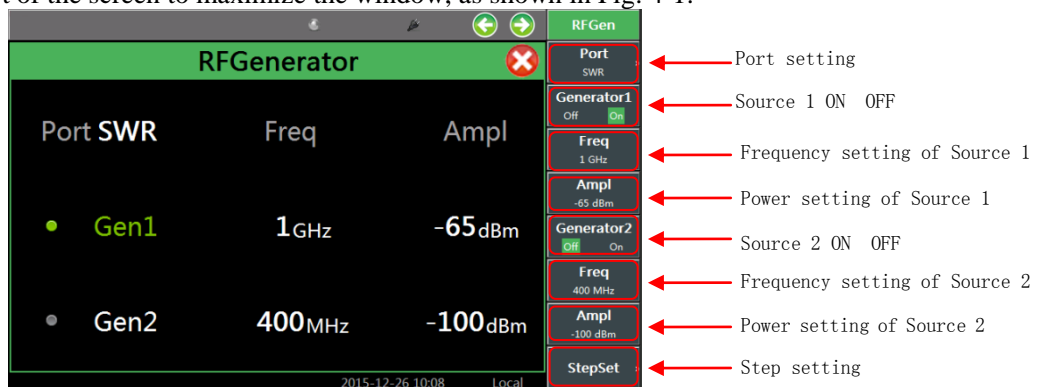

Fig. 4-1 RF Source Display Window
- Open the window: open and select the RF source window by pressing [Receiver] or pressing [Measurement] and setting the instrument menu. Press [Full Screen] in the lower part of the screen to maximize the window, as shown in Fig. 4-1.
- Call the menu: click the touch screen, select the RF source window as the current active window, and the corresponding menu will pop up on the right of the window, as shown in Fig. 4-1.